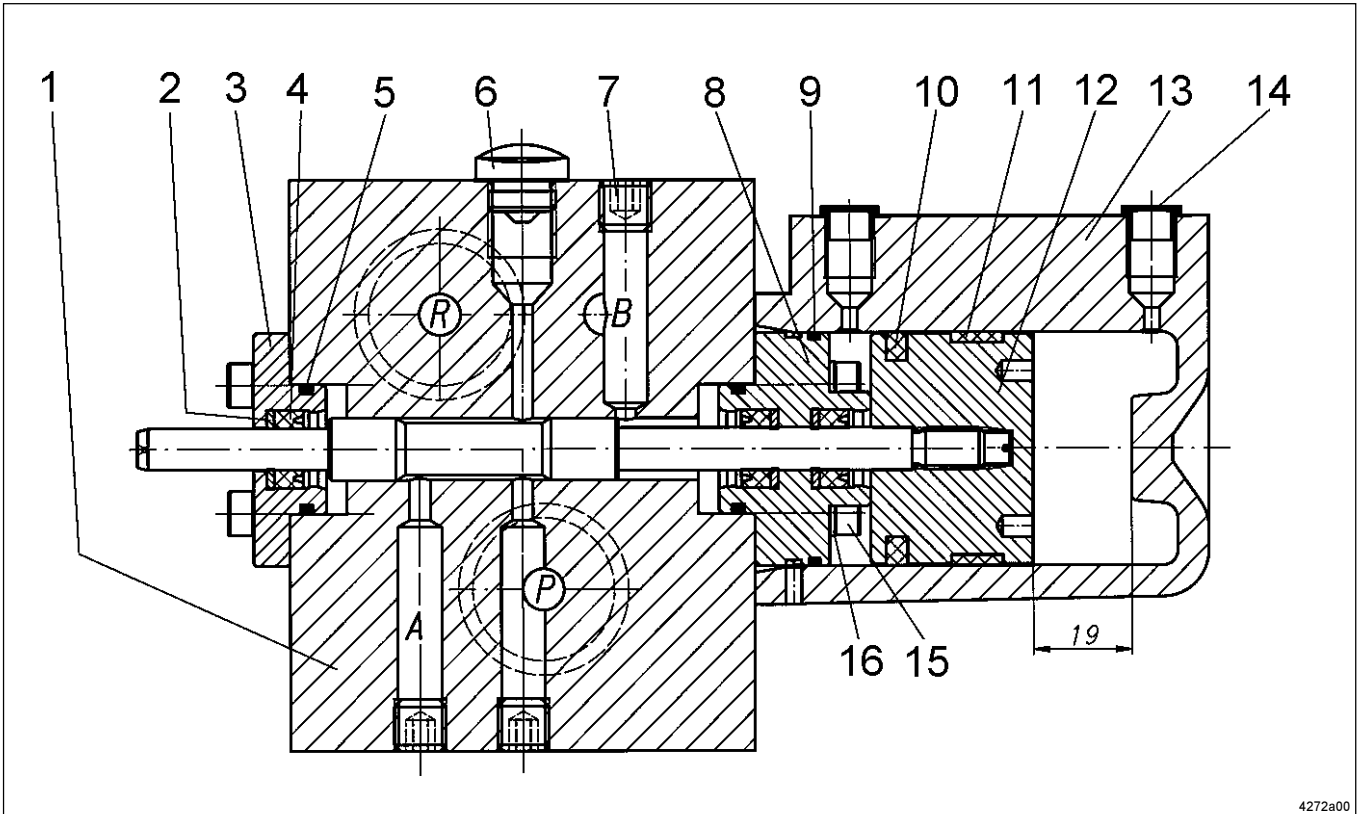

Fig. 4: Single parts of reversing housing
<ul style="list-style-type: none"> <li>• Leakage in the line system or in the two-line metering devices</li> <li>• Piston in reversing housing worn</li> </ul>	<ul style="list-style-type: none"> <li>• Check the main lines and the two-line metering devices</li> <li>• Replace the complete reversing housing (item 1, fig.4)</li> </ul>